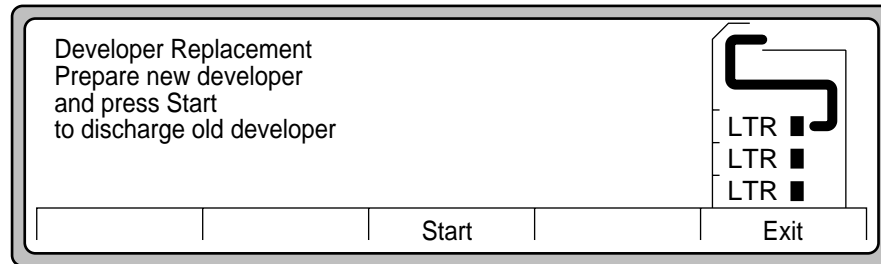

Figure 4-12 Discharge Developer
5. Press Select to display Developer instructions, as shown in Figure 4-12.
6. Press Start, as shown in Figure 4-12.